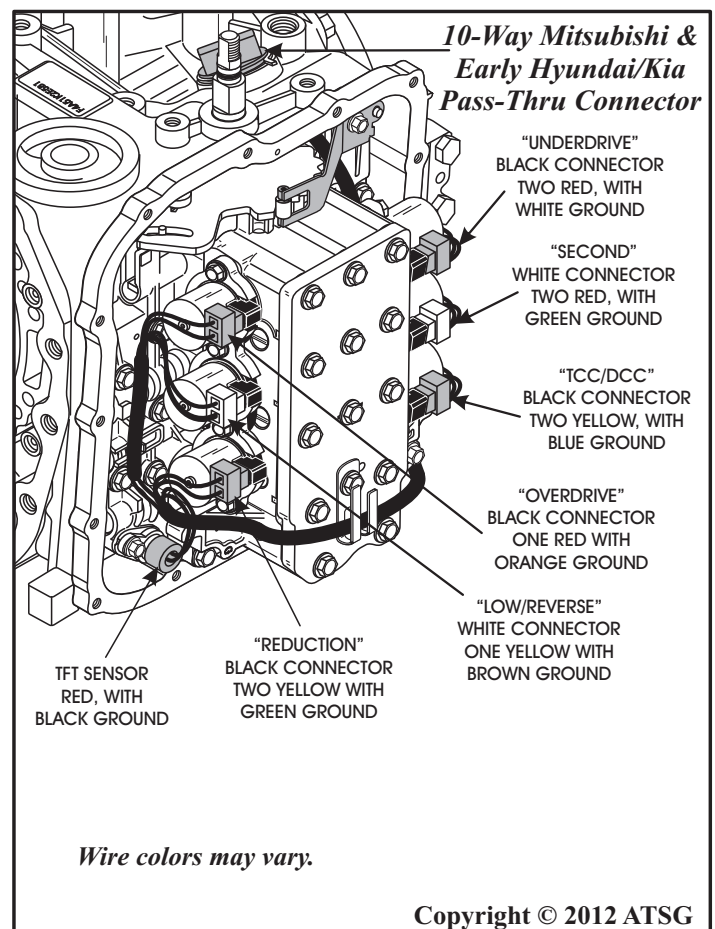
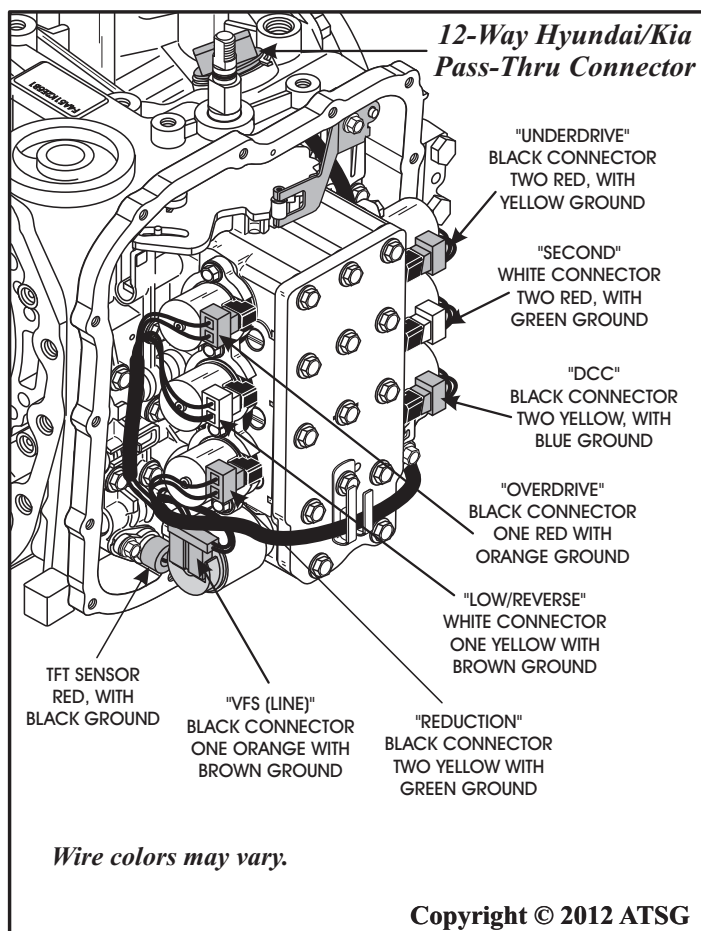

Figure 52
Figure 53
2. Disconnect the shift solenoid connectors and the fluid temperature sensor connector, as shown in Figure 52.
Note: The Mitsubishi and early Hyundai/Kia version is illustrated in Figure 52. 2007-Up Hyundai and 2006-Up Kia versions have one extra line pressure solenoid and are illustrated in Figure 53.
4. If you have 2007-Up Hyundai or 2006-Up Kia version, remove the connectors, as shown in Figure 53, and drape the wire harness up and over the top of pan rail.
Note: We have provided you with color of the wires that we observed. If yours are different, label them now to prevent cross-connecting on re-assembly (See Figure 53).